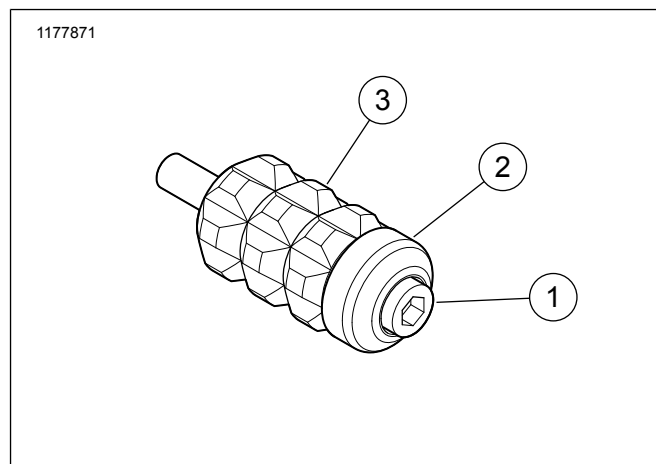

Figure 1. Service Parts: Shifter Peg Kit
See Figure 1 and Table 1.
2. See Figure 1. Apply threadlocker to the screw. Install to shift pedal (A) with screw (1). Tighten.